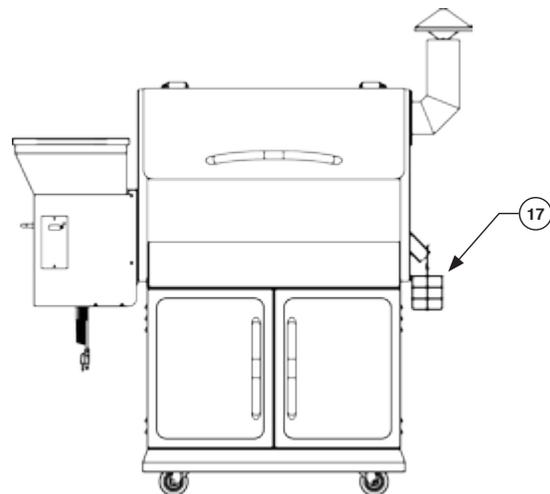

FIG 16
Locate the Grease Drain Tube which is on the right side of the chamber, then hang the Grease Catch (17) on the hook. As shown in FIG 16.